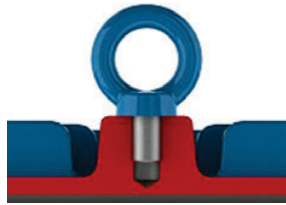
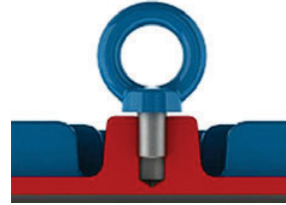

Figure 5 - Correct tightening of the eyebolt
Figure 6 - Incorrect tightening of the eyebolt.
Before lifting the motor ensure that all eyebolts are tightened properly and the eyebolt shoulders are in contact with the base to be lifted, as shown in Figure 5. Figure 6 shows an incorrect tightening of the eyebolt.
1. Ensure that the eyebolts are tightened properly, as shown in Figure 5;
1. Ensure that all eyebolts are tightened properly, as shown in Figure 5;